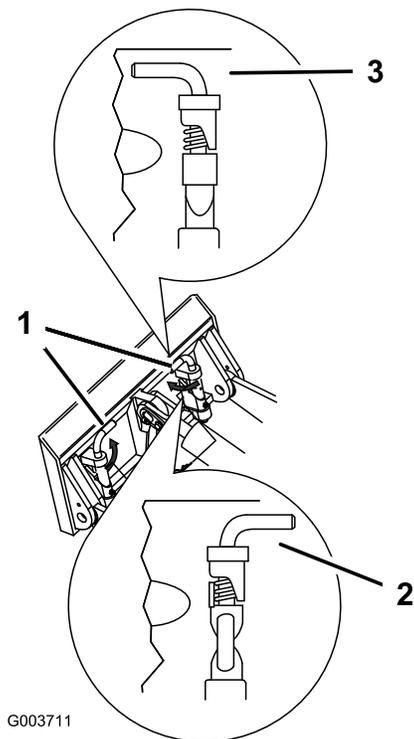

Figure 23
7. Engage the quick attach pins, ensuring that they are fully seated in the mount plate (Figure 23).